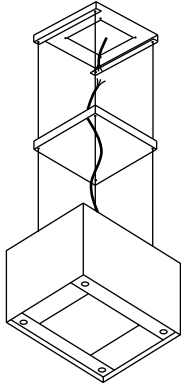

Fig 13
11. Feed cable through ceiling cover and connect (Fig 13).